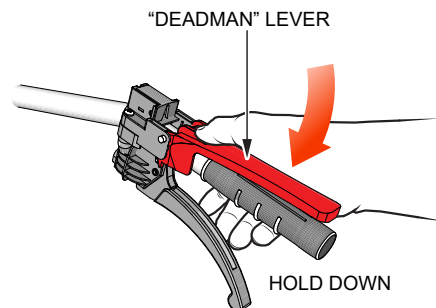

Figure 7. Deadman Lever
3. With the electric motor running, fully squeeze the **RED** deadman lever (Figure 7) and hold down. When the lever is held down, a signal is sent via a microswitch to the motor controller (J1-3) to release the brake.